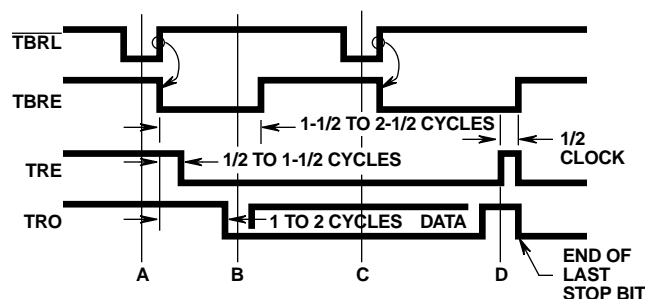

FIGURE 3. TRANSMITTER TIMING WAVEFORMS
Transmitter timing is shown in Figure 3. (A) Data is loaded into the transmitter buffer register from the inputs TBR1 through TBR8 by a logic low on the \overline{TBRL} input. Valid data must be present at least t_{DT} prior to, and t_{TD} following, the rising edge of \overline{TBRL} . If words less than 8-bits are used, only the least significant bits are used. The character is right justified into the least significant bit, TBR1. (B) The rising edge of \overline{TBRL} clears \overline{TBRE} . 1/2 to 11/2 cycles later, depending on when the \overline{TBRL} pulse occurs with respect to TRC, data is transferred to the transmitter register and \overline{TRE} is cleared. \overline{TBRE} is set to a logic High one cycle after that. (C) A second pulse on \overline{TBRL} loads data into the transmitter buffer register. Data transfer to the transmitter register is delayed until transmission of the current character is complete. (D) Data is automatically transferred to the transmitter register and transmission of that character begins.